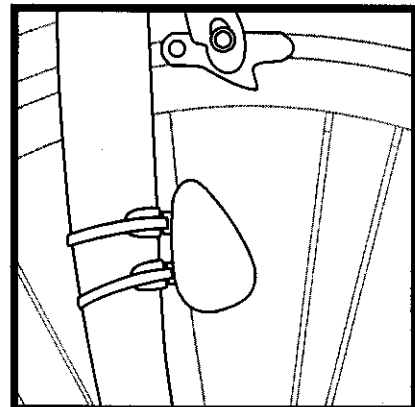

Fig. 18
1. Position the sensor unit to the inside of the right fork blade near the top (Fig. 18). NOTE: For best results computer and sensor should be less than 18" apart. Attach the sensor to the fork blade with quick ties, but do not tighten the ties yet.